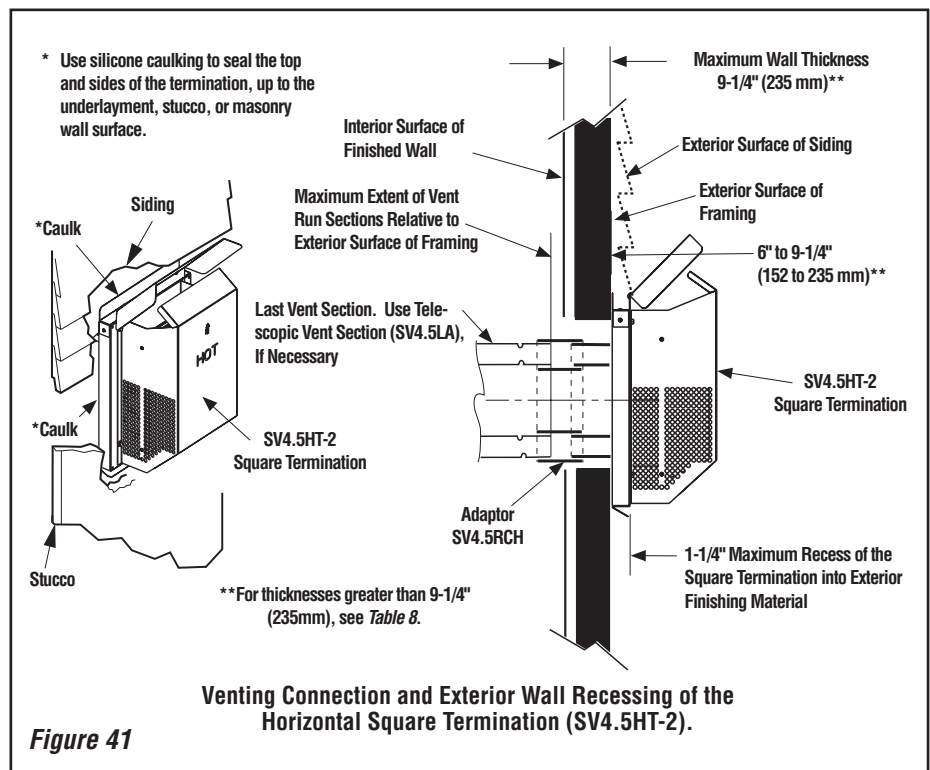

Figure 41
J. Assemble vent run to exterior wall - If not previously measured, locate the center of the vent at the exterior wall. Prepare an opening as described in **Step B**. Assemble the vent system to point where the terminus of the last section is within 7" (178 mm) to 11-1/4" (286 mm) inboard of the exterior surface to which the SV4.5 HT termination is to be attached, see **Figure 41**. If the terminus of the last section is not within this distance, use the **telescopic vent section SV4.5LA**, as the last vent section. For wall thicknesses greater than that shown in **Figure 41**, refer to **Table 8 on Page 25**. This table lists the additional venting components needed (in addition to the termination and adaptor) for a particular range of wall thicknesses.
1. Install the square termination (SV4.5HT-2) - For the last step, from outside the exterior wall, slide the collars of the termination onto the adaptor (the outer over the outer and the inner inside the inner) until the termination seats against the exterior wall surface to which it will be attached. Orient the housing of the termination with the arrow pointed upwards. Secure the termination to the exterior wall. **The horizontal termination must not be recessed into the exterior wall or siding** by more than the 1-1/4" (32 mm) as shown in **Figure 41**.
Table 8 *NOTE: See Figure 41, page 24 showing wall thickness range when using SV4.5HT-2 termination kit.*